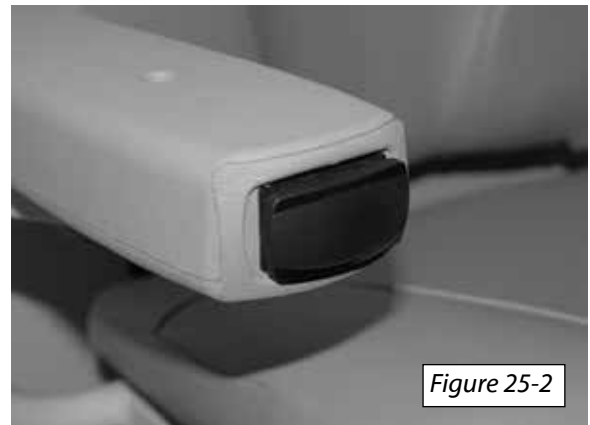

Figure 25-2
**9.** Use the armrest control switch to run the lift down the rail approximately 30". [Figure 25-2]